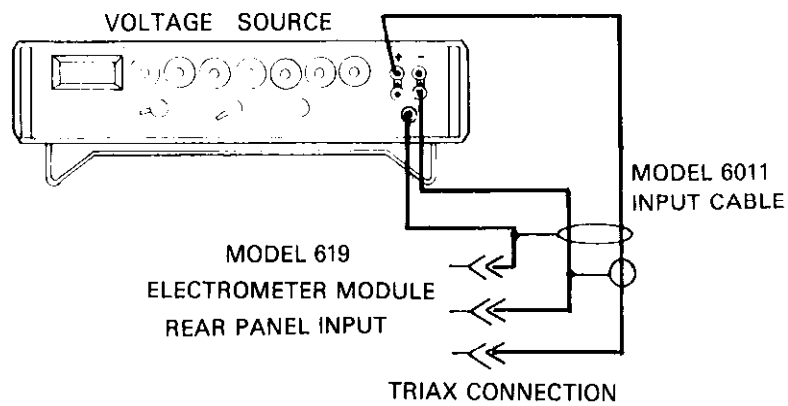

Figure 6-4. Supply Calibration 2 Volt
3. 2 Volt A/D Reference Supply Calibration: Uprange the Model 619 to the 2 Volt range, and apply +1.9000 Volts to its input. Adjust R415 for a display reading of +1.9000 +0 to within  $\pm 1$  count. Refer to Figure 6-4.